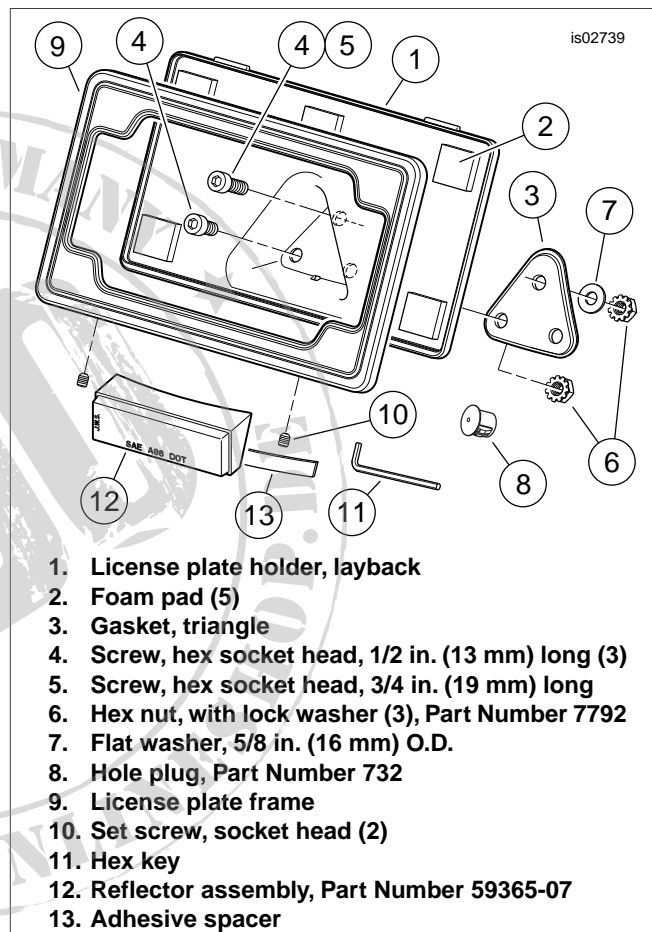

Figure 1. Layback License Plate Mount Components
See Figure 1.
2. See Figure 1. Fasten the new license-plate holder to the rear fender:
- a. **For 2002 and later Dyna, AND 2004 and later Sportster models:** Insert the hole plug (8) into the hole in the fender to the left of the two lower license-plate mounting holes.
- b. **For all models EXCEPT Sportster:** Fasten the triangle gasket (3) and license-plate holder (1) to the fender using three **1/2-in. long** screws (4) and hex nuts with lock washers (6) from the kit. Tighten securely.
- c. **For Sportster models only:** Fasten the triangle gasket (3) and license-plate holder (1) to the fender using the **3/4-in. long** screw (5), flat washer (7), and a hex nut with lock washer (6) from the kit **in the TOP hole**. Do not fully tighten.